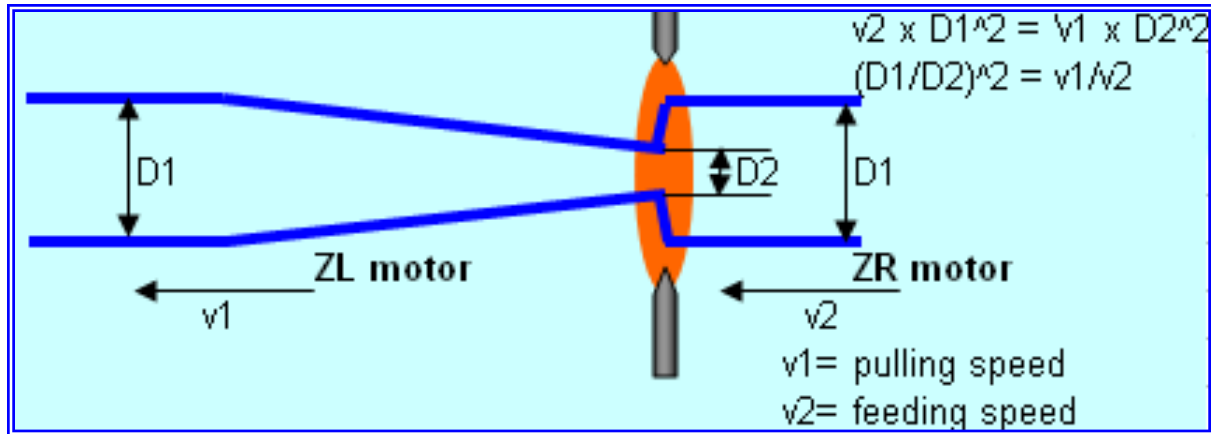

Figure 1.2 Principle for speed control to make a long taper.
For making a long taper, such as an adiabatic taper, the fiber can be pulled from one side of the heat zone and fed from the opposite side. The feeding and pulling directions are the same. But feeding and pulling speed are different, which controls the taper ratio. Due to the material conservation shown in Eq. (1), the glass fed into the heat zone should be equal to the glass pulled out from the heat zone. Based on the definitions shown in Fig.1.2, we have the following equation to determine the relation between pulling and feeding speeds from the desired taper ratio at any location of tapering process in Eq. (2):